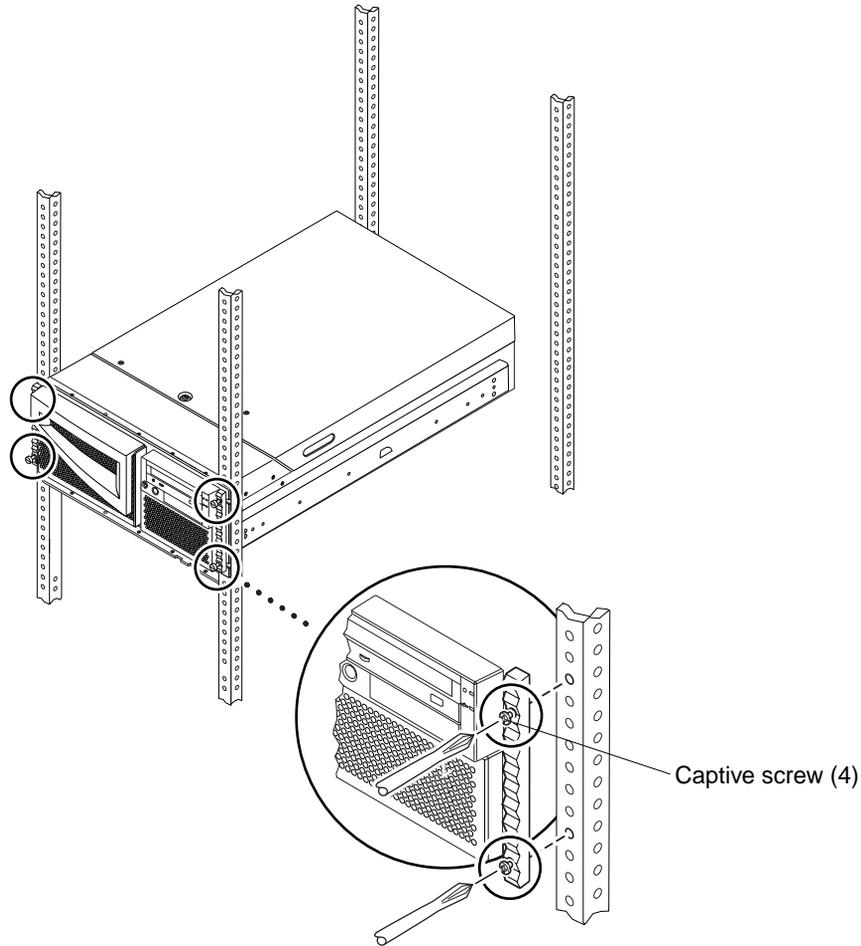

FIGURE 9-15 Securing the File Server or Compute Engine to the Left and Right Vertical Rails
9. Tighten the four captive screws securing the file server or compute engine (FIGURE 9-15).